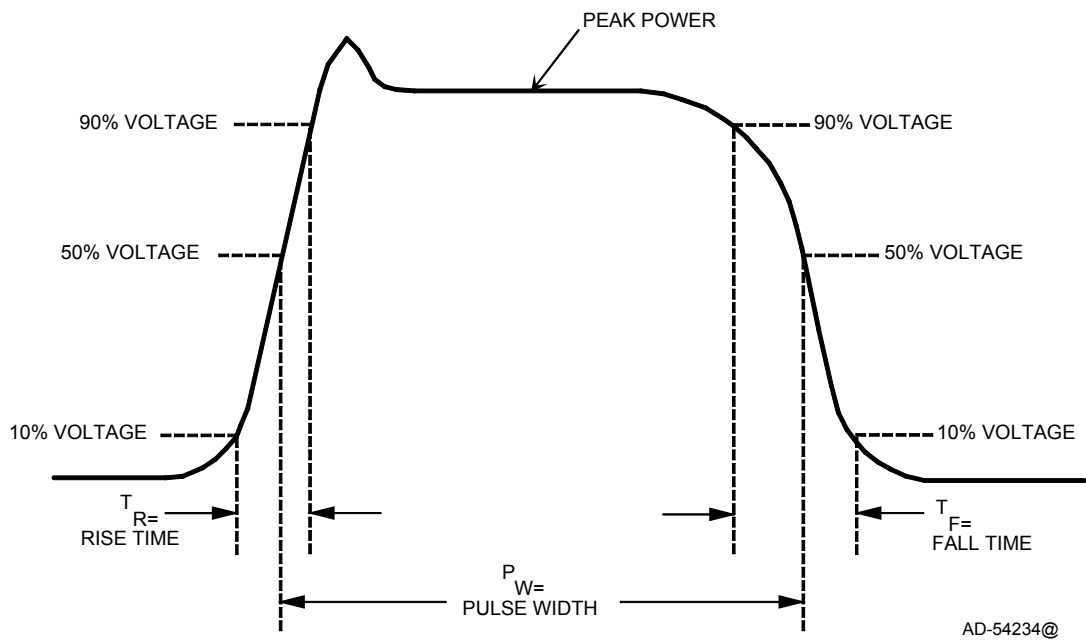

Figure 2. Basic Pulse Measurements
3.2.5 Figures 2 through 6 provide information about pulse identification and the method of measuring pulse parameters for the RF measurements. The actual specification values for these parameters are listed in the RF test procedure tables.